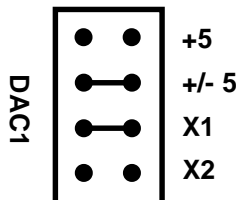

Fig. 1-2 — DAC Output Voltage Range Jumpers, P3 Through P10
These eight header connectors individually set the output voltage range for the eight DAC channels at 0 to +5, ±5, 0 to +10, or ±10 volts. Two jumpers must be installed on each header, one to select the range and one to select the multiplier. The top two jumpers select the range, bipolar (±5) or unipolar (5). The bottom two jumpers select the multiplier, X2 or X1. When a jumper is on the X2 multiplier pins, the range values become ±10 and 10. The table below shows the four possible combinations of jumper settings for each DAC channel, and Figure 1-2 shows the factory setting for DAC1 (P3). NOTE: At power up or CPU reset, the analog outputs are set to 0 volts. When the first DAC update command is issued all DAC outputs will be switched on.